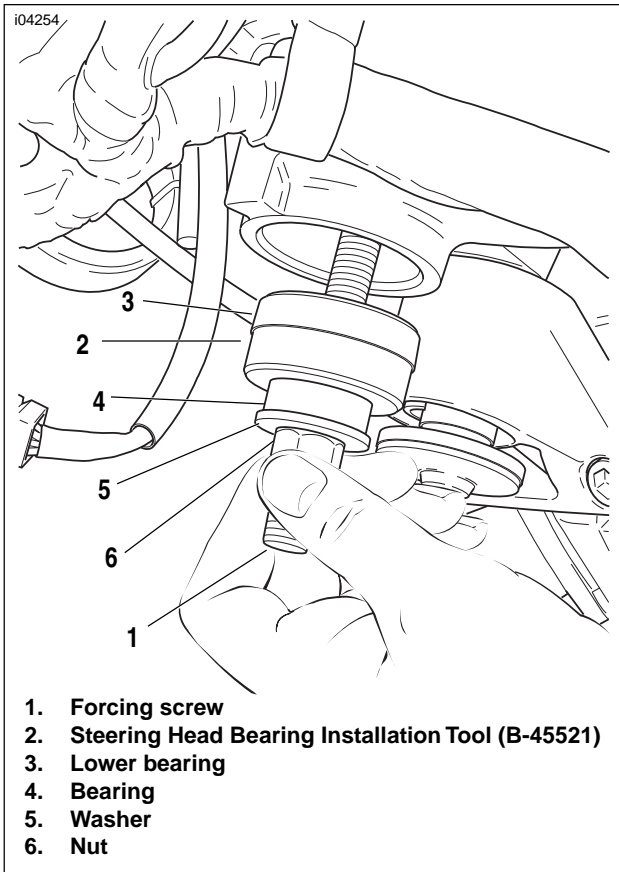

Figure 2-79. Lower Bearing
2. See Figure 2-79. Sparingly apply EXTREME PRES-SURE LUBRICANT (Part No. J-23444-A) to the threads of the forcing screw (1) from the STEERING HEAD BEARING RACE INSTALLER (Part No. HD-39302), to prolong service life and ensure smooth operation. Insert the forcing screw (1) through the STEERING HEAD BEARING INSTALLATION TOOL (Part No. B-45521) (2).